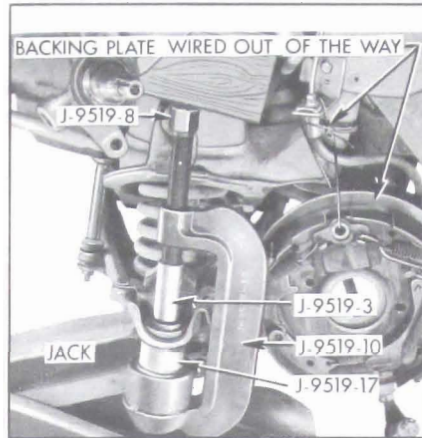

Figure 7-15—Lower Ball Joint Remover Tool in Place
2. Remove the brake backing plate. If the backing plate is wired carefully out of the way as shown in Figure 7-15, there will be no need to disconnect the brake hose.
6. Install Lower Ball Joint Remover and Installer J-9519 as shown in Figure 7-15. Note that the larger O.D. portion of Detail J-9519-16 is positioned in J-9519-10.